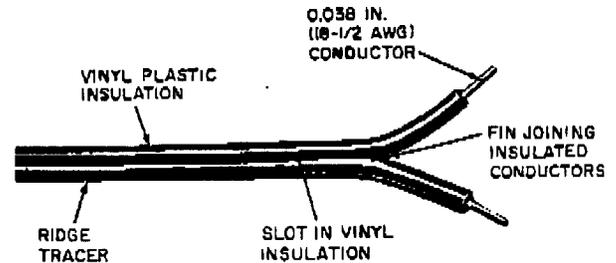

Fig. 1—F Drop Wire
2.01 *F drop wire* consists of a parallel pair of two copper-covered steel conductors 0.0380-inch in diameter that are insulated with a single layer of black vinyl plastic compound. The insulation is slotted on both sides. A single ridge tracer is provided on the insulation surface for conductor identification (Fig. 1).